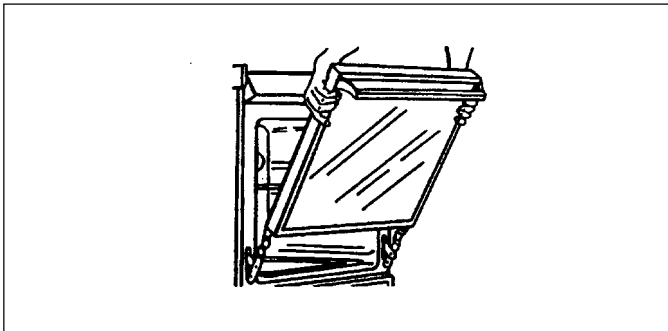

Figure 18
3. Close door to first stop, grasp door firmly on each side, and lift upward until door is off hinges. (Figure 18)